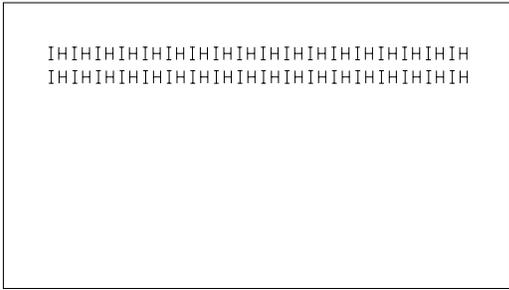
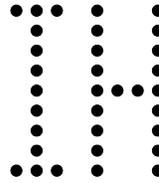

Figure 6-2. IH Test Pattern
Figure 6-3. IH Pattern
- Compare the printing at the CR station with Figure 6-2 and Figure 6-3. (Step 012 continues)
- Compare the printing at the JNL station with Figure 6-2 on page 6-5.